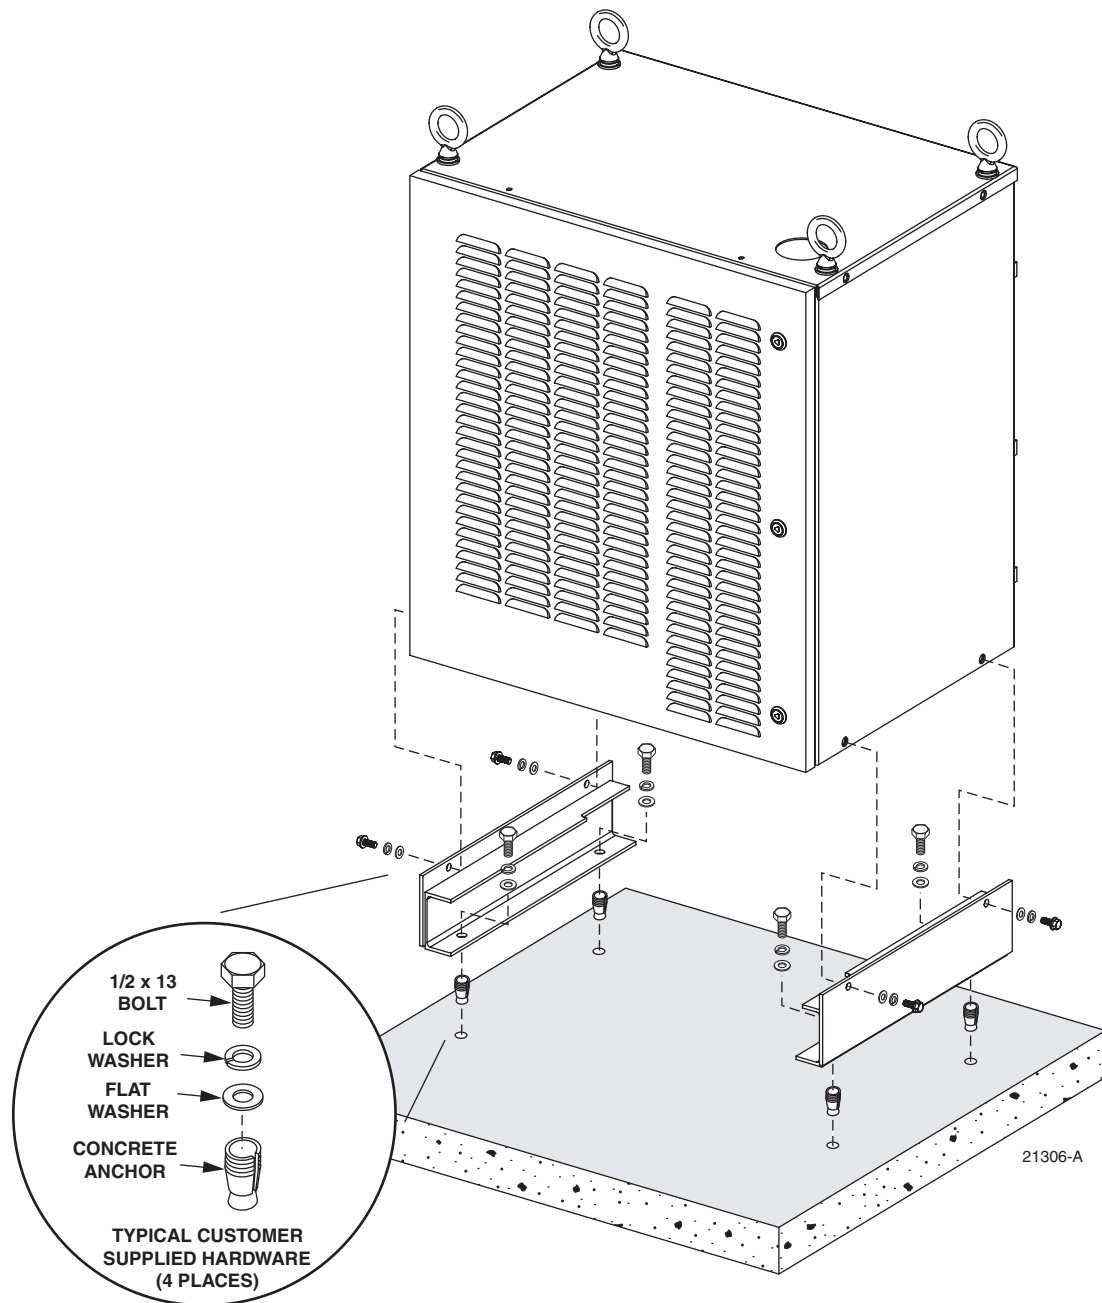

Figure 29. Installing Pedestal Mount and Cabinet
1. Fasten the pedestal mounts to the concrete pad using the customer-supplied hardware identified in Figure 29.